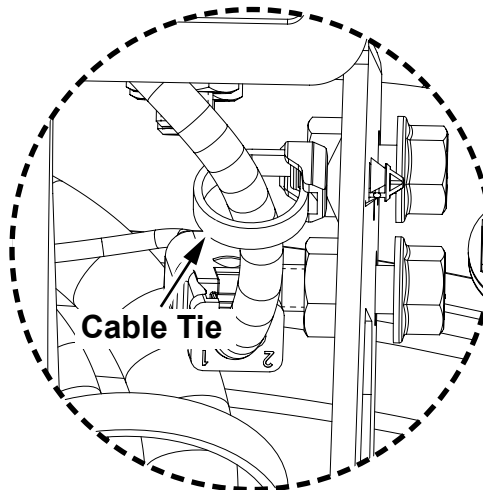

Figure 4
- 6. HORN HARNESS DETAIL:** Install (1) 948210 cable tie (see *Figure 4*).